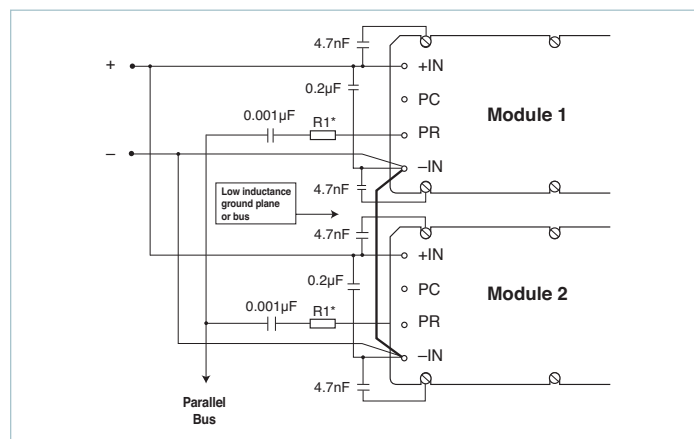

Figure 9 — AC-coupled single-wire interface
**AC-coupled single-wire interface.** All PR pins are connected to a single communication bus through 0.001μF (500V) capacitors. This interface supports current sharing and is fault tolerant except for the communication bus. Up to three converters may be paralleled by this method. See Figure 9.